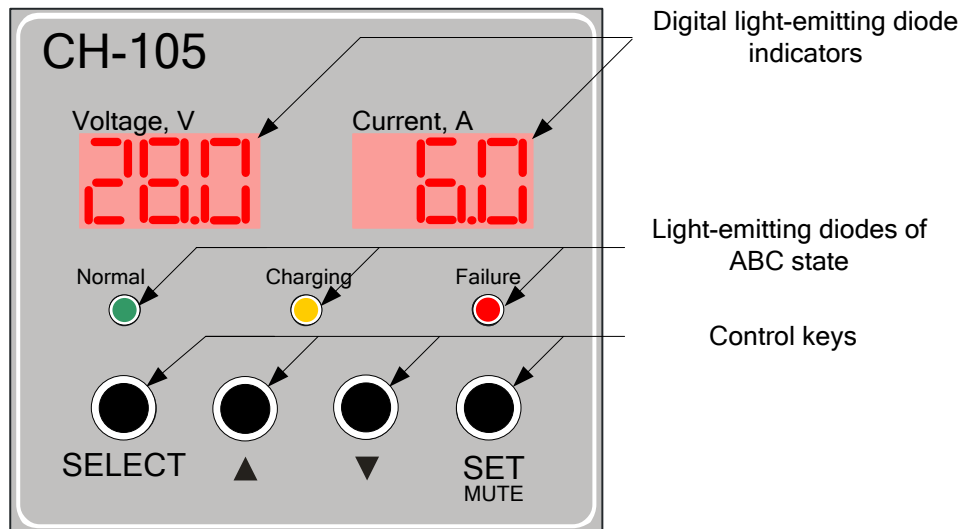

Figure 9 Layout of controls and indicators of ABC CH-105
Note! During adjustment of ABC built-in signalling can operate. To disable the sound signal, press the key "Mute" (refer to Figure 9).
If one of the above mentioned situations takes place, ABC automatically activates built-in signalling and external alarm unit AU-106. To disable sound signalling, press the key "MUTE" (refer to Figure 9); here, visual signalling will remain active until the cause of signalling is eliminated.
ABC has the following controls and indicators: control keys, three light-emitting diodes indicating the state and operation mode of ABC and two digital light-emitting diode indicators (refer to Figure 9).
3. Light-emitting diodes Failure, Normal and Charging are intended for indication of present operation mode of ABC. (Refer to Table 6, Figure 9).